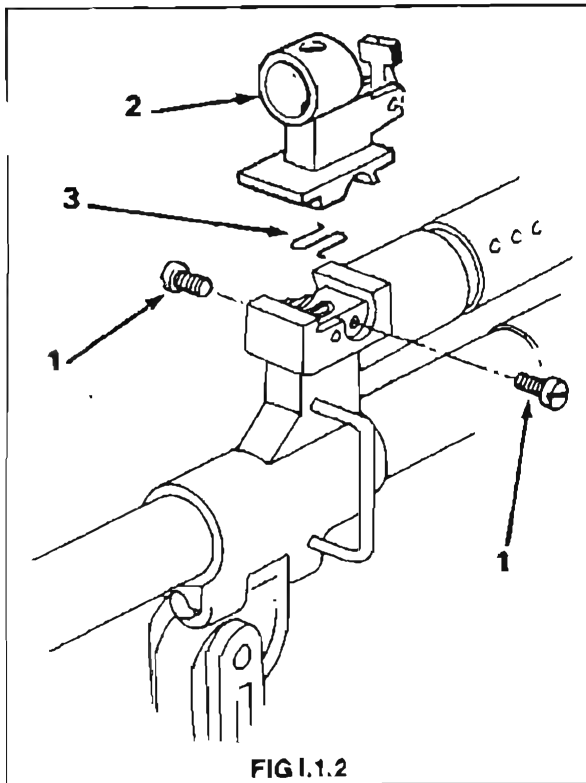

FIG I.1.2
1. Remove the front sight assembly from the weapon by screwing out the two adjusting screws, and sliding the sight base out of the grooves in the gas block. Lift and remove spring sight base. See Fig. I.1.2